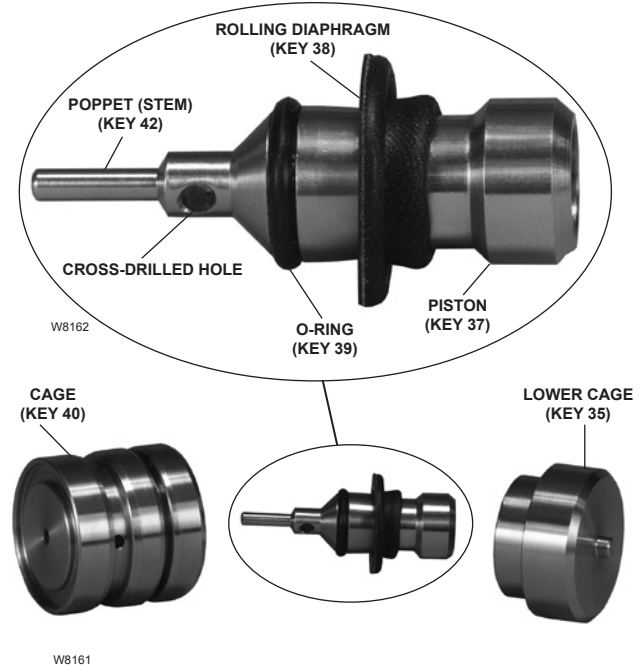

Figure 9. NPS 1 and 2 / DN 25 and 50 Pad Valve Cage Assembly
Refer to Figures 9, 14, and 15.
1. The upper cage (key 40) will readily separate from the lower cage (key 35). See Figure 9.
2. Gently press the poppet stem (key 42) to remove the pilot from the upper cage (key 40).
1. Install O-rings (key 16) into the bonnet (key 17).
2. Apply Loctite® #222 to the piston threads. Place the rolling diaphragm (key 38) over the threaded portion of the piston (key 37). Position the rolling diaphragm bead as shown in Figure 9.